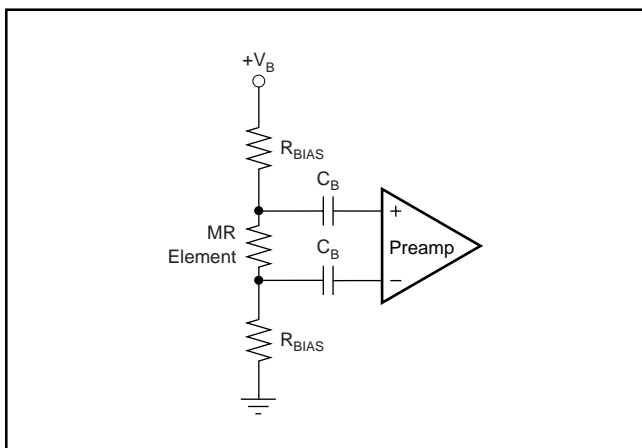

FIGURE 2. Typical MR Head Interface.
The MPA4609 is designed to detect and amplify the voltage signal from a Magneto Resistive (MR) head with minimal SNR degradation from the SNR intrinsic to the head. A typical MR head interface is shown in Figure 2. Not considering any postfiltering, the amplifier's $0.65\text{nV}/\sqrt{\text{Hz}}$ input noise voltage and 90MHz bandwidth combine to produce a very low $7.7\mu\text{V}_{\text{RMS}}$ input referred noise floor. Even with a conservative 20dB S/N margin, input signals as low as $77\mu\text{V}_{\text{PP}}$ may be detected. With a maximum differential output of 3V_{PP} and a 190V/V gain, a maximum input of $15.7\text{mV}_{\text{PP}}$ may be applied. This wide range of inputs translates into 46dB input dynamic range. Since the MR head is biased through external voltages, it is often required to connect the signal through series blocking capacitors as shown in Figure 2. The high-pass pole created by these capacitors (C_B) and the source resistance are selected to pass the lowest frequencies required by the system.